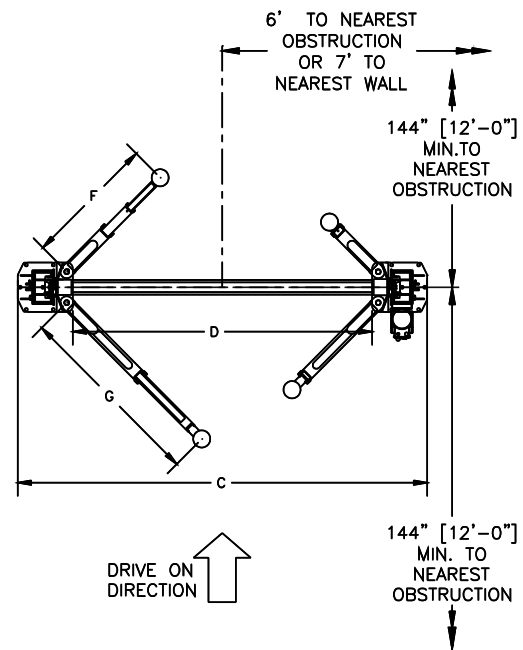

Fig 1b - Service Bay Layout
- 1) Layout the service bay according to the architect's plans or owners instructions (**see Fig 1b**). **Failure to install in this orientation can result in personal and property damage.** Be certain that the proper conditions exist, see page 3.
- 3) Using the Overall Width (C) Dimension from **Fig 1b**, chalk two parallel lines on the floor within 1/8" tolerance. Erect both column assemblies. Align the base plate edges to the chalk lines.